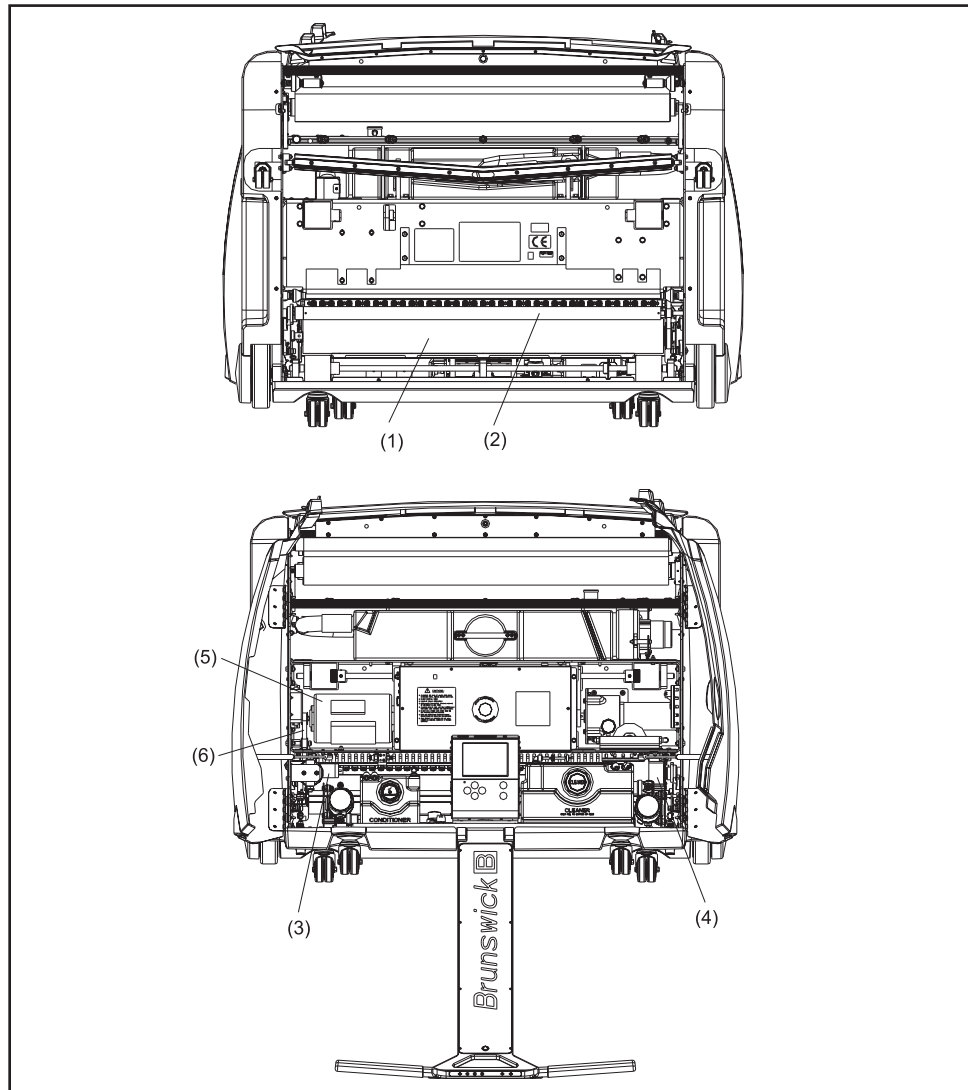

Figure 6-5. Buffing System
1. During the forward travel of the buffing operation, the machine disperses the conditioner on the lane surface and buffs it, then continues its return travel to the foul line. Refer to Figure 6-5.